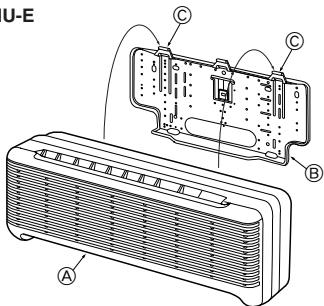

Fig. 3-11
3.5. Mounting the indoor unit (Fig. 3-11)